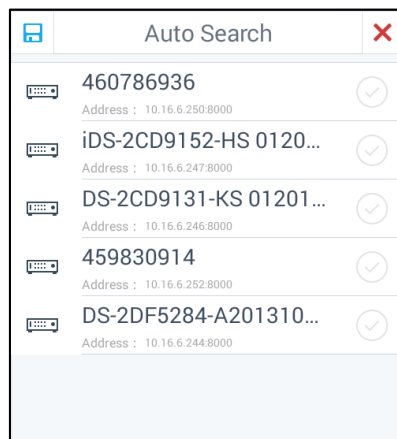

Figure 4.5 Auto Search Result
1. Click and hold down the **Add Device** icon for one second. The **Auto Search** window pops up as shown in Figure 4.5. All the online devices under the same broadcast domain with the keyboard will be displayed in the Auto Search window.